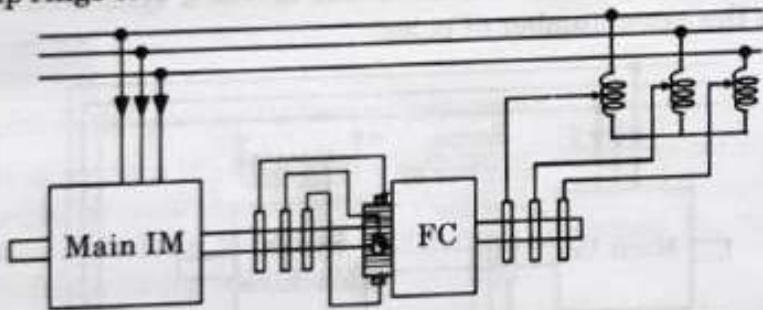

Fig. 1.1.1. Constant-torque drive scheme with commutator-frequency converter.
1. A constant torque drive scheme for an induction motor, making use of a commutator-frequency converter as shown in Fig. 1.1.1.